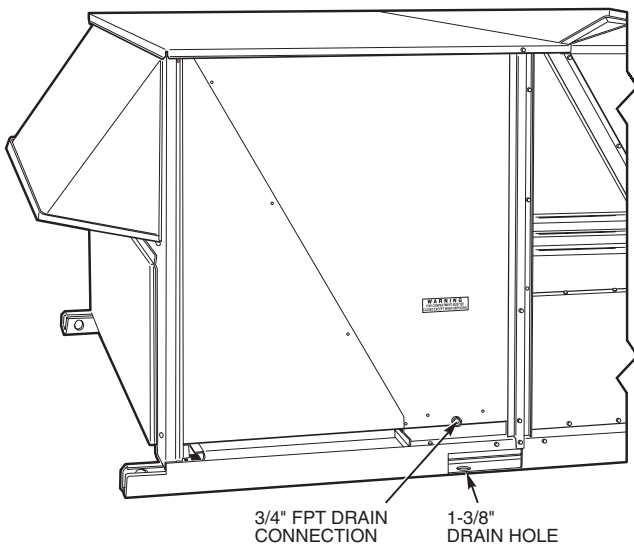
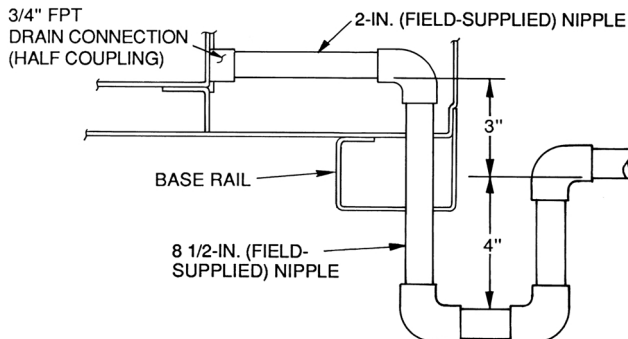

Fig. 12 — Condensate Drain Details (48TM016 Shown)
Fig. 13 — Condensate Drain Piping Details
Step 6 — Trap Condensate Drain — See Fig. 12 for drain location. One 3/4-in. half coupling is provided inside unit evaporator section for condensate drain connection. An 8 1/2-in. x 3/4-in. diameter and 2-in. x 3/4-in. diameter pipe nipple, coupled to standard 3/4-in. diameter elbows, provide a straight path down through hole in unit base rails (see Fig. 13). A trap at least 4-in. deep must be used.